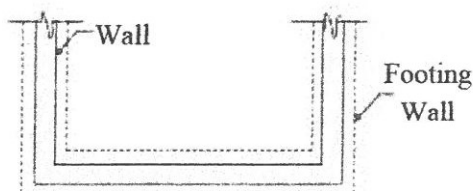

Figure 2
- b Figure 2 shows the plan of a load bearing building provided with spread footing. The hard stratum is available upto a depth of 1.5m. The existing footing of this building has weakened and needs to be strengthened. Which method will you recommend to strengthen the footing of this building? Explain the detailed procedure followed in strengthening this footing. CO5 10